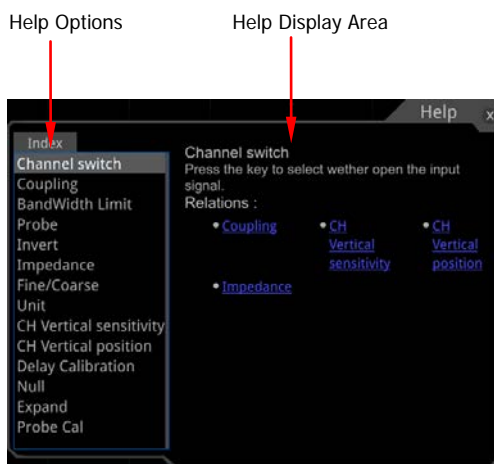

Figure 1-22 Help Information
2. Press **Content** or tap the "Content" menu item, and then the help information is displayed on the screen, as shown in Figure 1-22. The help interface mainly consists of two sections. The left section lists "Help Options", and the right section is the "Help Display Area".